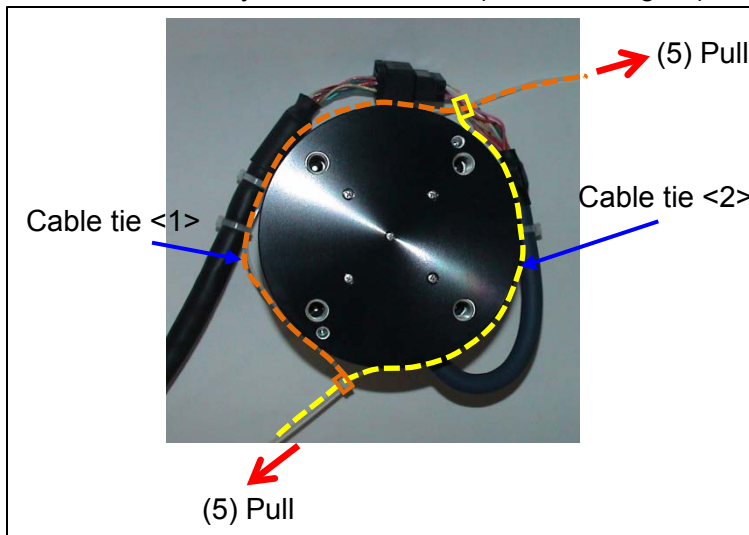

Fig. 3: How to hold the cable
(3) Connect the connectors first. Then temporarily connect the cable tie <1> and <2>, and arrange the cables and the cable ties around the attachment adapter for the force sensor as shown in Fig. 3.